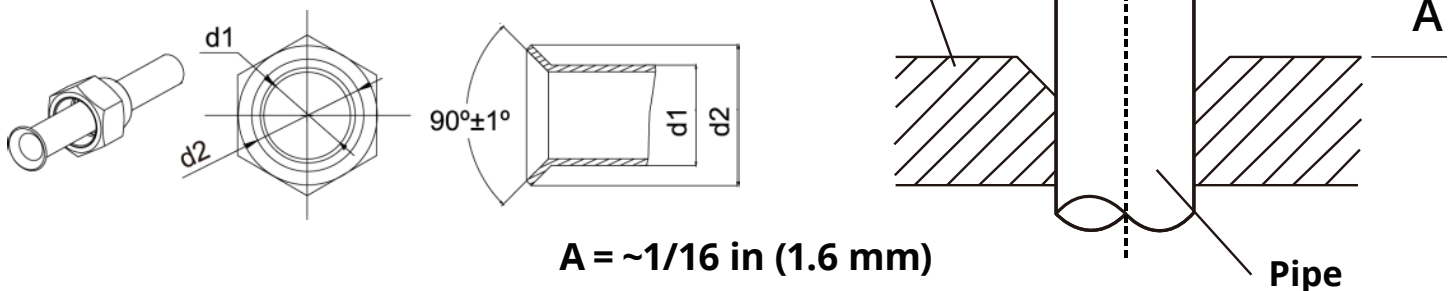

Fig. 2.14
5. Clamp flare form on the end of the pipe. The end of the pipe should extend $\sim 1/16$ in (1.6 mm) beyond the edge of the flare form, as shown in **Fig. 2.14**.